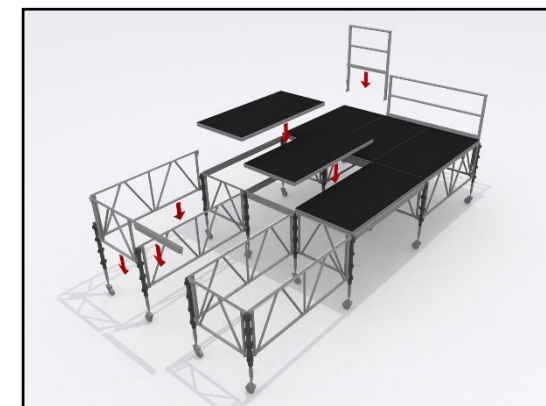

Fig. 3 - Exploded View
- 1.4 The system consists of modular decks nominally 8' x 4' typically. These are supported by a series of Gates and Beams that are linked via adjustable height Node Posts. The Gates are arranged in a set pattern for structural rigidity. Typically, the Gates and Beams are 8' or 4' in length. *Fig. 3 - Exploded View*